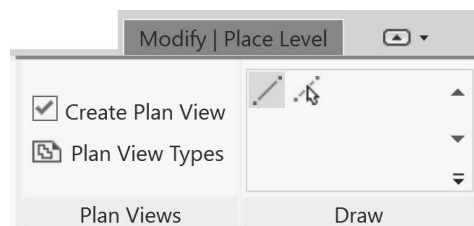

Figure 1–36
3. In the *Modify | Place Level* tab>*Plan Views* panel, select the checkbox for the **Create Plan View** option, as shown in Figure 1–36, and click **Plan View Types**.
- In the *Plan View Types* dialog box, click **Structural Plan** to deselect it (so that only the **Ceiling Plan** and **Floor Plan** view types are selected), as shown in Figure 1–37, and click **OK**.